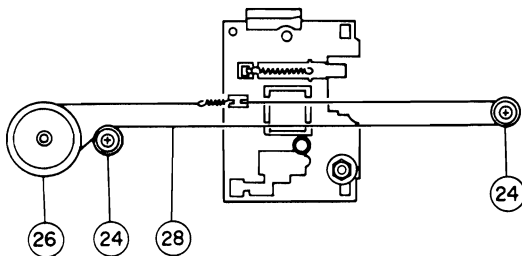

Figure 5
- Remove the string (28) from the pulley (24) and then remove it from the worm wheel gear (26) as shown in Figure 5.